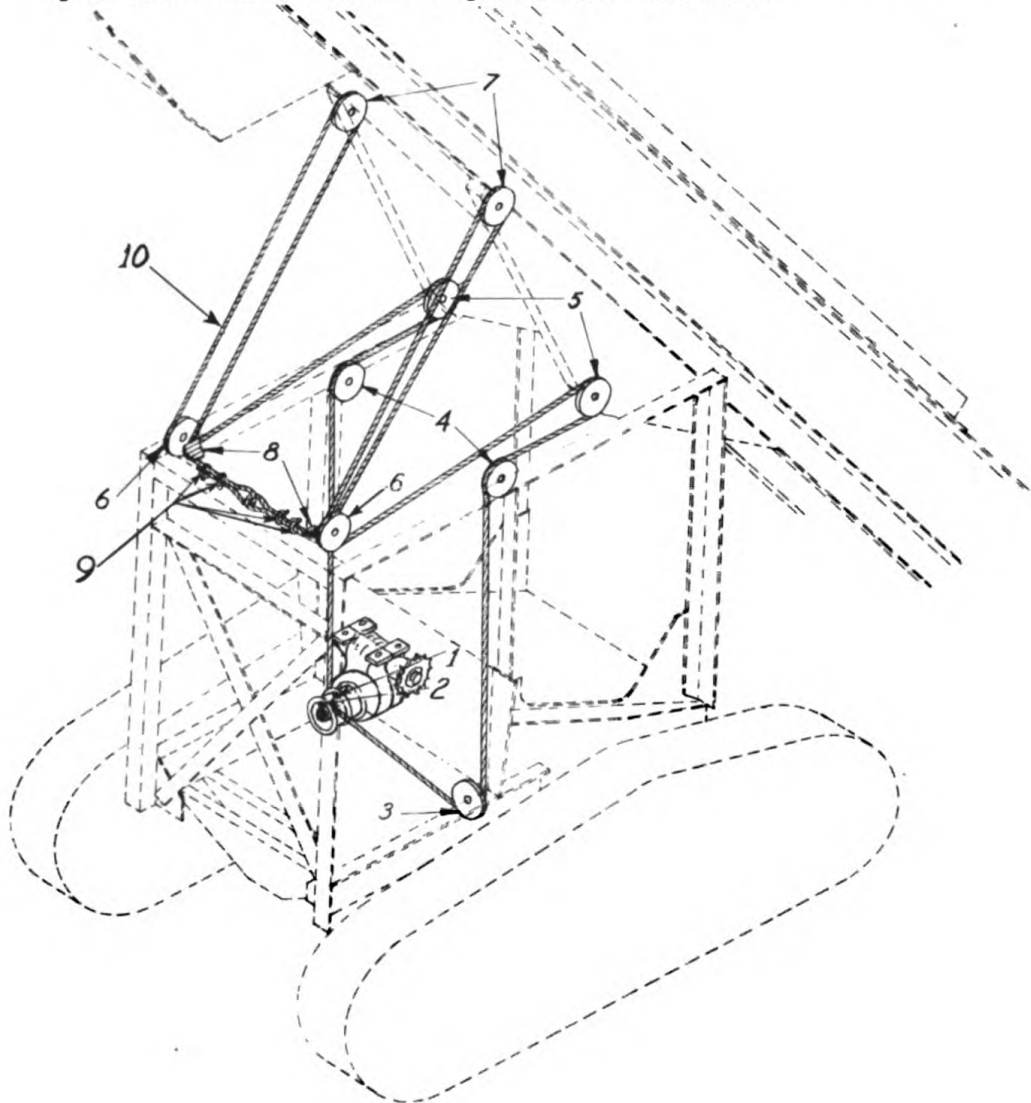

Figure 494
- (b) Uncouple the ends of the hoist cable on the superstructure (9) figure 494, and remove the cable from the sheaves (7) and (5) on the elevator.
- (a) Run one end of the cable through the hole next to the inner flange (1) figure 494 in the hoist drum, then through inside the drum and out hole (2) next to the outer flange. Pull the cable across to sheave (3) on the superstructure frame on the side opposite the drum and run the cable under this sheave.
- (b) Grasp cable near hole (2) and loop it over and around drum so that it leads from the top of drum to sheave (3). Run other end of cable so that it runs from hole (1) around the drum to be run